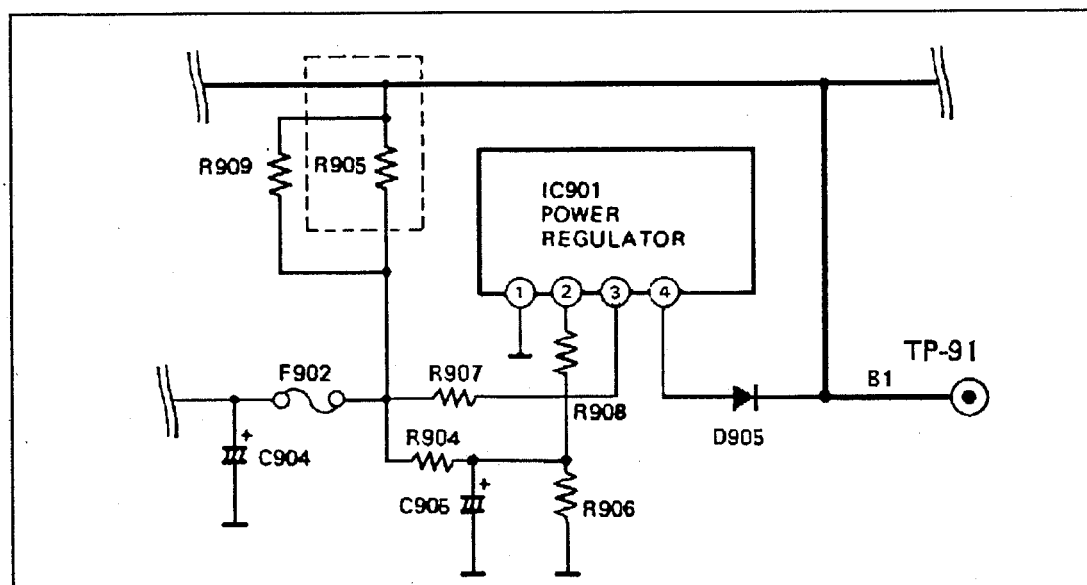

Fig.2
- (1) Make the short circuit across R905, 330  $\Omega$  15W UNF R (shown in Fig.2,  ) under normal operating condition.
- (2) Confirm the picture goes out.